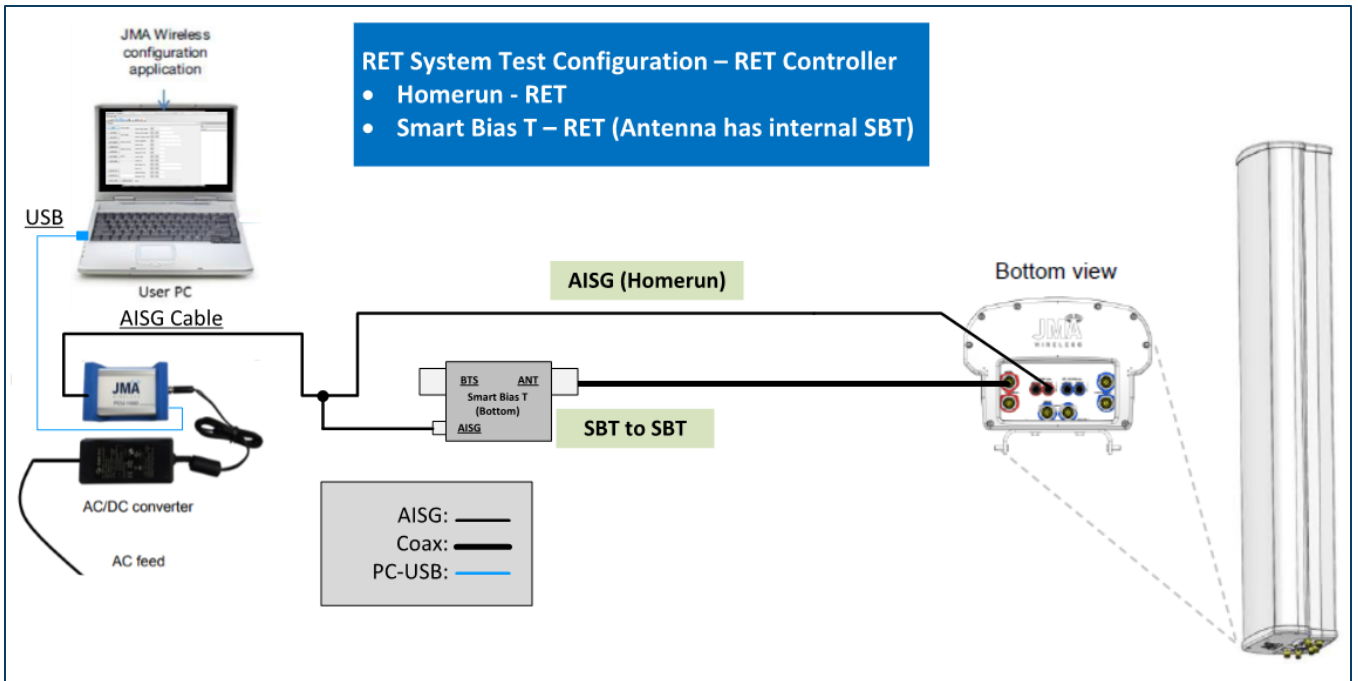

Fig. 13 – Connection diagram for RET-1000 system (NWA V antennas)
- Follow the connection diagram in *Figure 13* which shows the various R1000 system diagram connections to the PCU-1000 controller and PC.